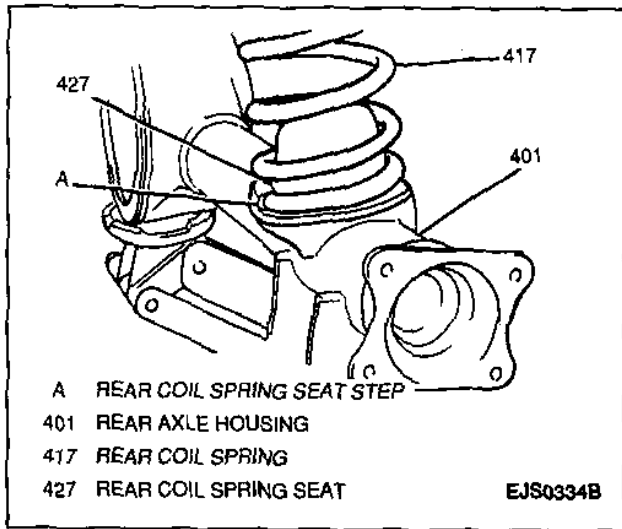

Figure 33—Rear Coil Spring Installation
2. Two rear coil springs to their proper positions on the rear axle housing spring seats (Figure 33).
- When installing the rear coil springs in their spring seats, make sure that the spring end with the stepped portion (landing) is aligned with the stepped portion of the rear axle housing (Figure 33).